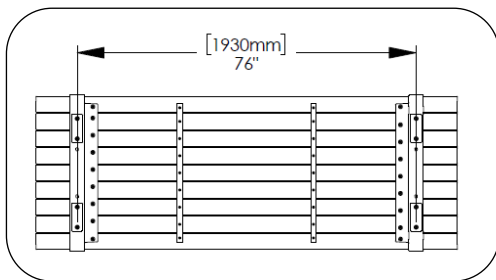

Fig. 7 – table anchor hole spacing
2. Set unit in position. Trace around anchors to mark hole locations. Verify table hole spacing is 76" on center, Fig. 7.
4. Set unit in position. Trace around rods to mark hole locations. Verify table hole spacing is 76" on center, Fig. 7.